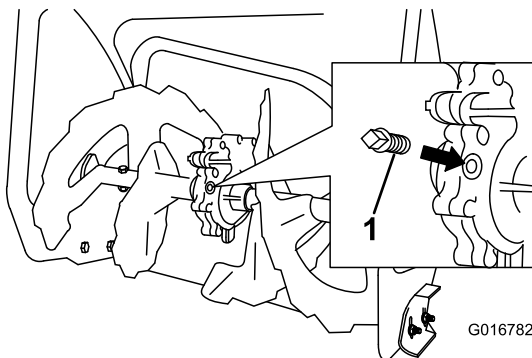

Figure 30
- Clean the area around the pipe plug (Figure 30).